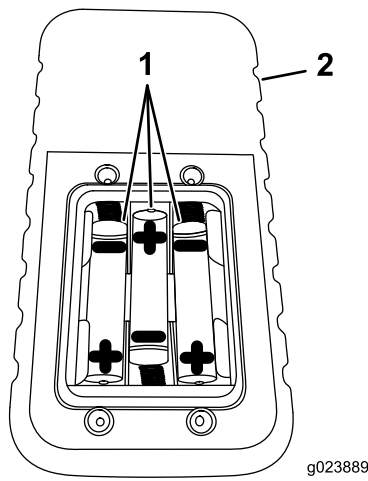

Figure 5
4. Install 3 new, AAA batteries in the orientation shown in Figure 5.